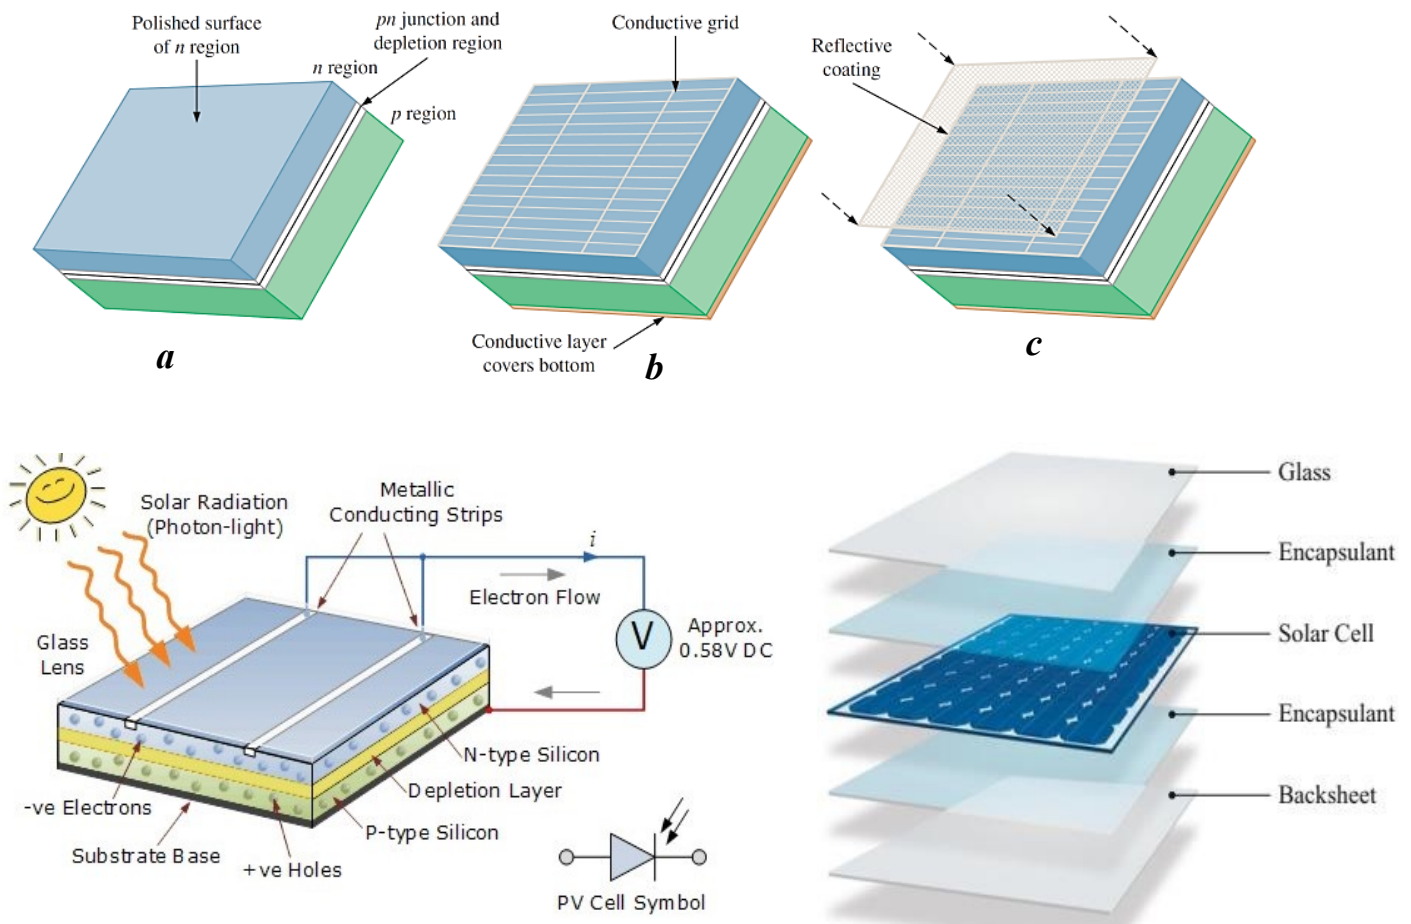

Fig. 1 Solar cell structure
- The silicon wafer is doped so that the **n** region is much thinner than the **p** region to permit light penetration, as shown in Figure 1(a).
- A grid of very thin conductive contact strips is deposited on top of the wafer by methods such as photoresist shown Figure 1(b). The contact grid must maximize the surface area of the silicon wafer that be exposed to the sunlight in order to collect as much light energy as possible.
- Then an antireflective coating is placed on top the contact grid and **n** region, as shown in Figure 1(c). This allows the solar cell to absorb as much of the sun's energy as possible by reducing the amount of light energy reflected away from the surface of the cell.